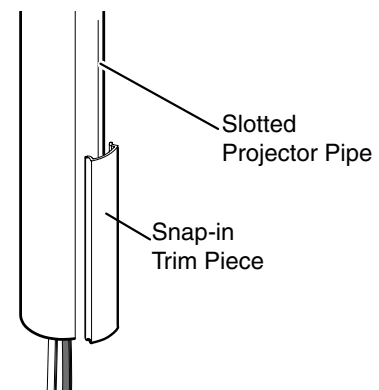

Figure 9 — Snap in trim piece
- b. Tuck the signal cables into the slotted pipe and firmly snap the trim piece into place (see figure 9).